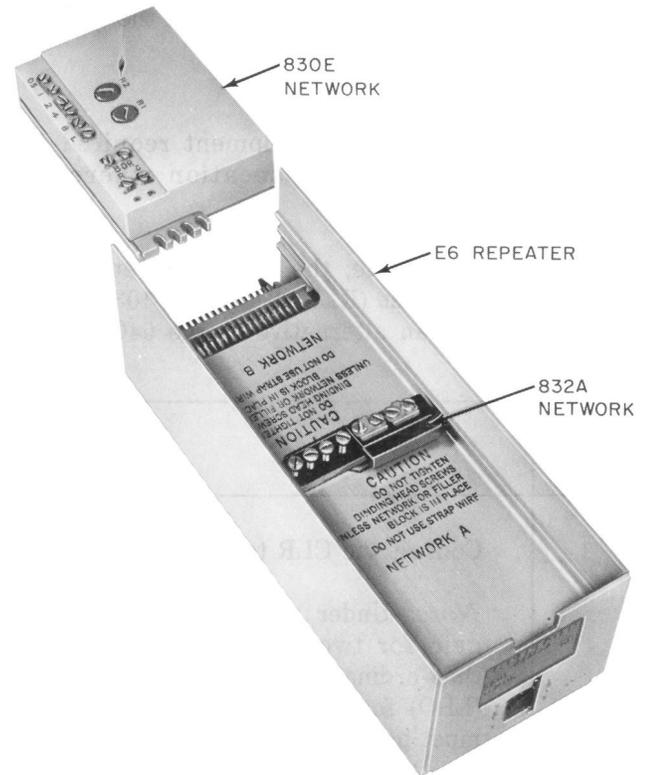

Fig. 1—E6 Repeater and Networks Used on Nonloaded Cable Between a Central Office and PBX
1.01 This section provides lineup and installation procedures for the E6 repeater, including an 830E network, when the repeater is used on PBX-to-central office nonloaded trunks (Fig. 1).